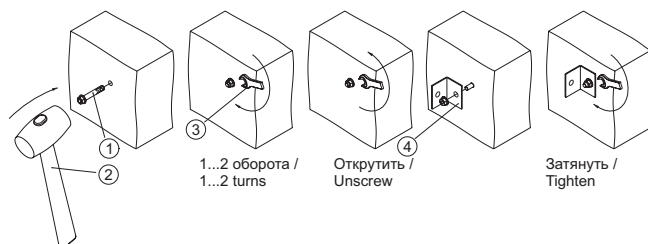

Рисунок A.1 / Figure A.1
1.2.2.4 Mounting the masonry bolt (figure A.1):